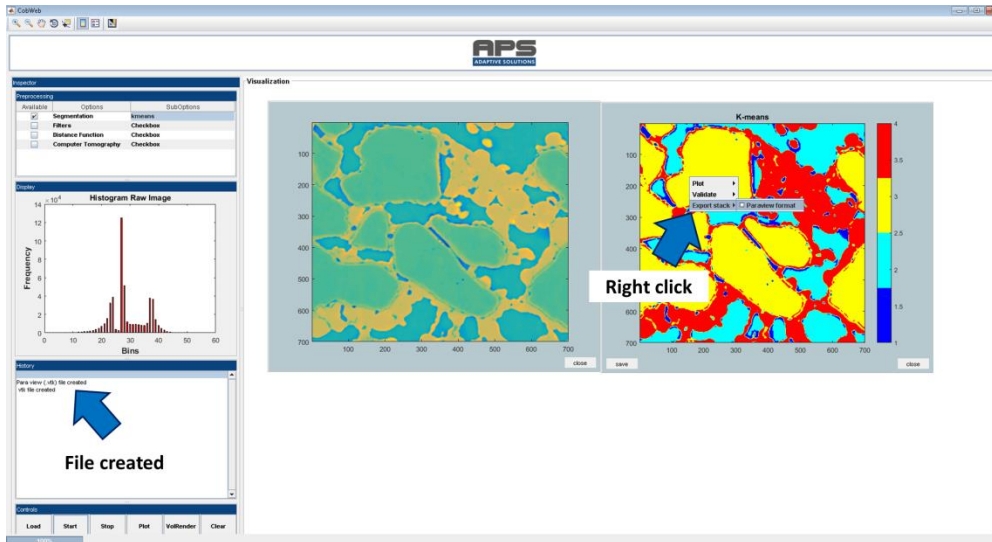

Figure 48: Export segmented REVs in .vkt format
- Export the segmented stack into the ParaView format, as shown in Figure 48.